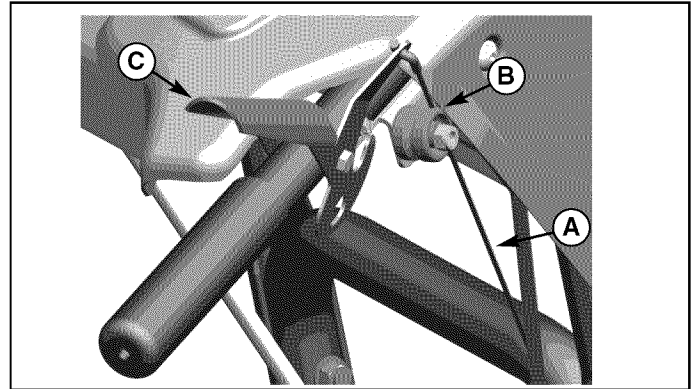

Figure 15. Auger Cable Button
1. Check that the auger cable (A, Figure 15) is on top of cable button (B) as show in Figure 15.
- Turn the ball joint (C, Figure 15) until it is aligned with the mounting hole in the shifter rod (E). When aligned, attach the ball joint (C) to the shifter rod (E) and tighten the jam nut (B).